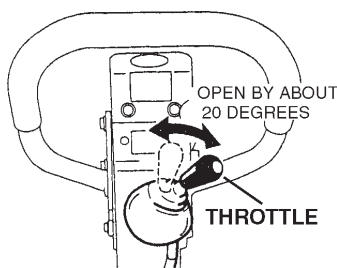

Figure 8. Throttle Lever (Start Position)
1. Move the throttle lever to the **START** position by opening it to about 20 degrees (Figure 8).